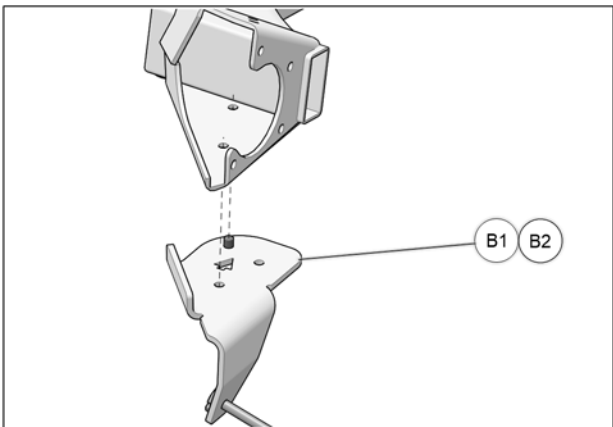

Fig. 6
5. Position anchor bracket (**B1-B2**) under rear suspension trailing arm, behind wheel hub. See Fig. 6